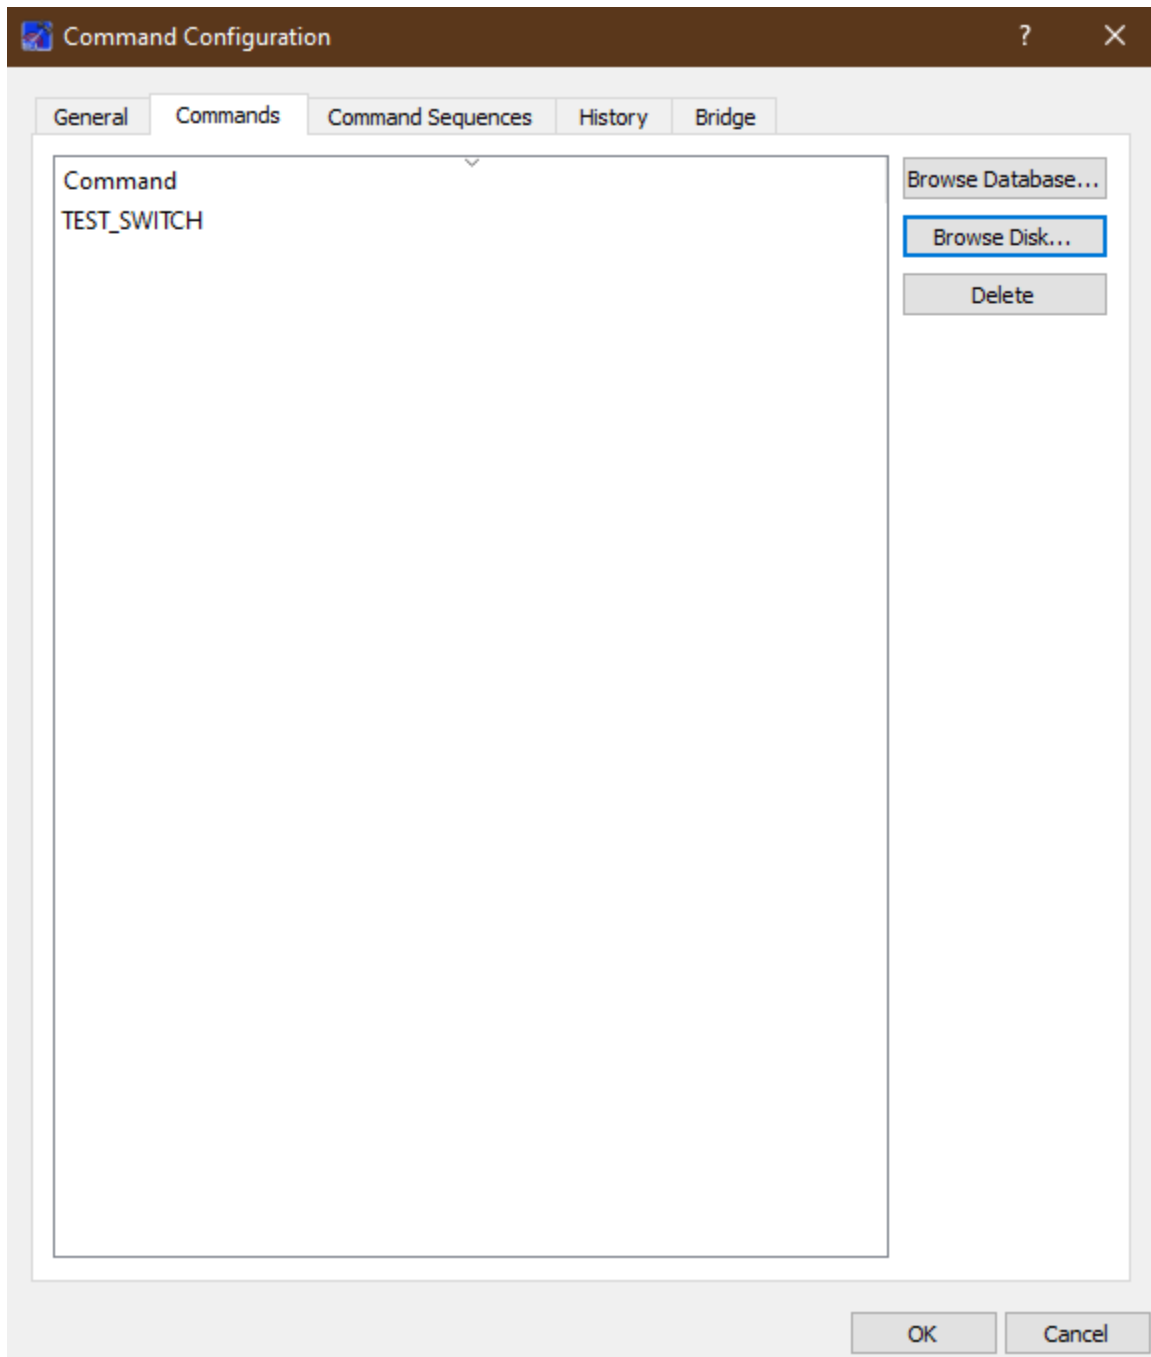

Figure 9 Command Configuration Command List with TEST_SWITCH Command
7. Select the file named **test_switch.xml** and push the Open button. The command will be added to the Command list as shown in Figure 9.